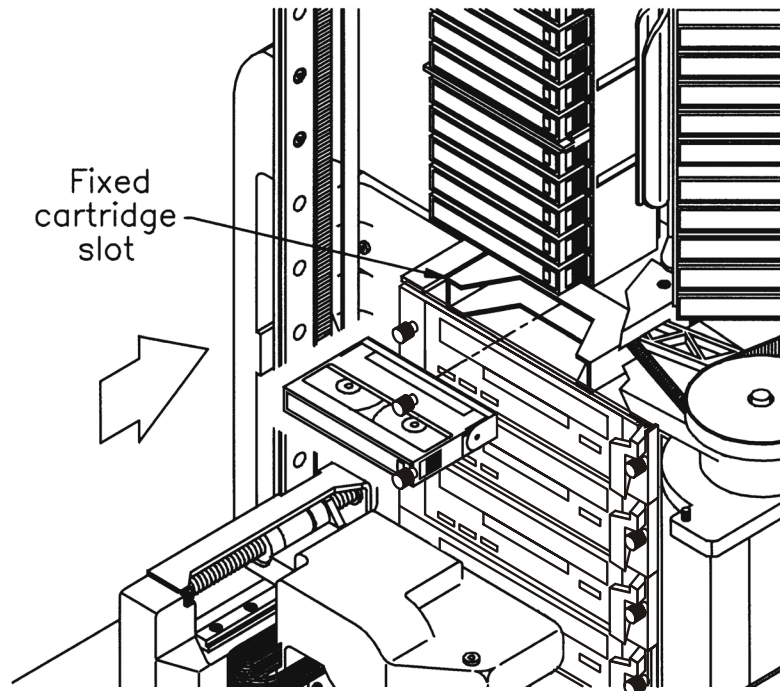

Figure 1-15 Installing a cartridge in the fixed cartridge slot
1. Position the cartridge so that the window showing the tape reels is toward the top (see Figure 1-15).